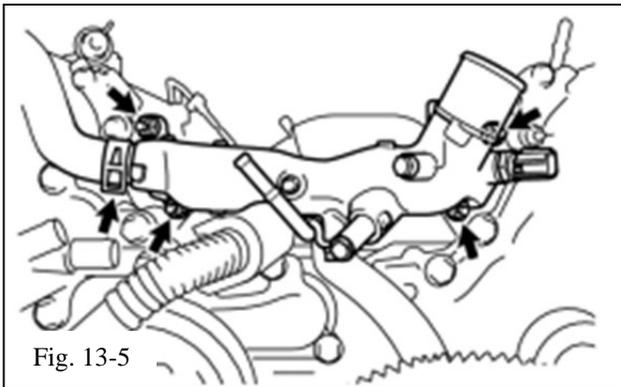

Fig. 13-5
- (g) Remove the 4 nuts, front coolant crossover manifold and 2 gaskets (Fig. 13-5).
- (1) Retain the nuts and gaskets.
- (2) Discard the coolant crossover manifold.
- (3) Clean the gaskets and mating surfaces on the engine.